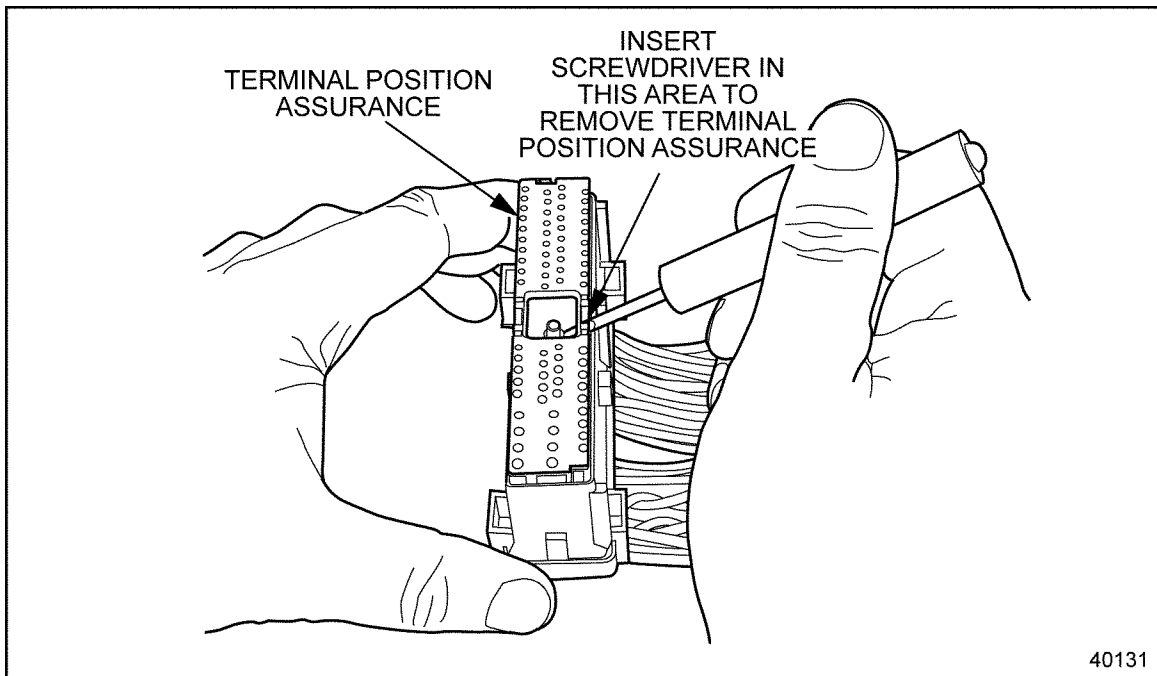

Figure 3-18 Removing the Terminal Position Assurance
1. Remove the Terminal Position Assurance (TPA) from the connector using a jewelers (small) screwdriver (see Figure 3-18).
3. Remove the Terminal Position Assurance from the connector with the screwdriver (see Figure 3-18).